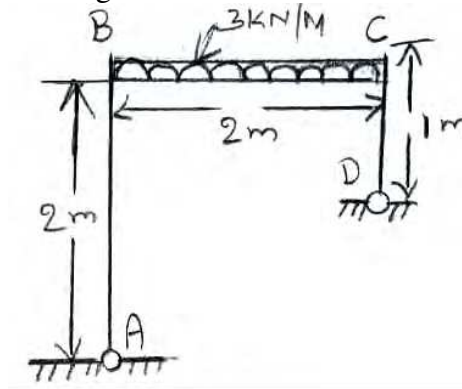

Figure 1
1. Using the method of minimum strain energy, analyze the portal frame shown in Figure 1. Plot the B.M diagram. EI is constant. [16]